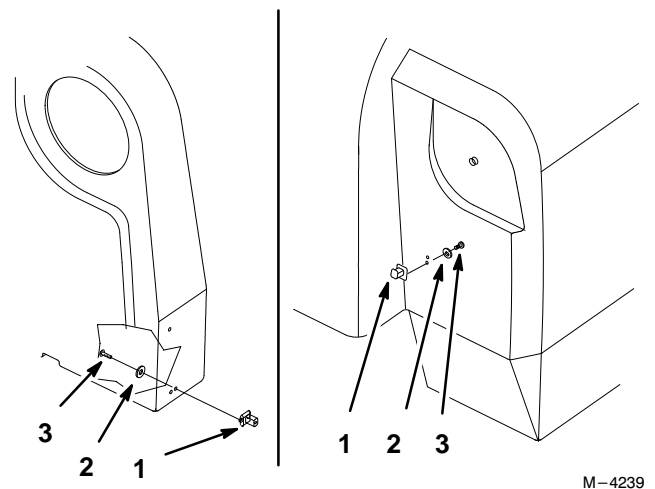

Figure 8
2. Remove existing bolt, washer and latch peg (Fig. 8).
3. Replace existing washer with new washer. Tighten bolt, washer and latch peg (Fig. 8).
4. Repeat for other two latch pegs on collection bin (Fig. 8).